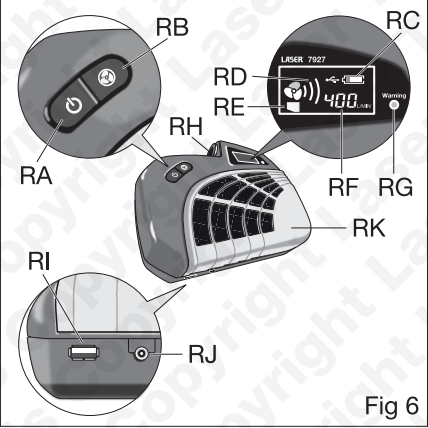
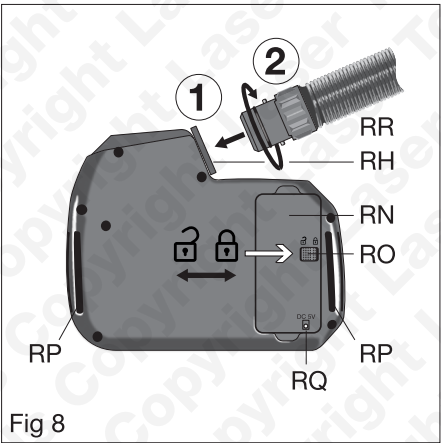

Fig 6
Fig 8
The unit's integral battery offers approximately 4.5 hours of operation at the maximum airflow of 400 l/min (litres per minute). The battery is recharged via a USB cable (supplied) plugged into a PC or USB mains adaptor. There are two charging ports on the blower unit: one at the side of the unit (**RJ** in **Figure 6**) and one at the rear on the battery cover (**RQ** in **Figure 8**). Recharge time approximately 6 hours. The battery is removable. **Make sure the battery is fully charged before first use.** A USB socket is also included so that the respirator battery may also be used as a power bank.
1. Mount the respirator blower unit onto the belt. Feed the blower mounting strap through the slots on the blower unit (**RP** in **Figure 8**) and secure the strap on the adjacent belt clip.
3. Connect the air supply hose (**RR** in **Figure 8**) to the rear port of the welding helmet and to the air outlet on the blower unit (**RH** in **Figure 8**). These are turn and click bayonet-type fittings. Position the air supply hose so that it will not interfere with the welding process.
4. Refer to **Figure 6**: Switch unit on by pressing and holding down the ON / OFF button (**RA**) for approximately 2 seconds. Press again for 2 seconds to switch off.
Refer to **Figure 6**: If the blocked filter indicator (**RE**) lights up (plus audible signal), then it is time to replace the filter. Do not use the blower unit if the blocked filter indicator is displayed.
Refer to **Figure 8**: Press the battery compartment cover locking tab (**RO**) to the unlock position, then lift off the battery compartment cover (**RN**). The battery can then be lifted out.